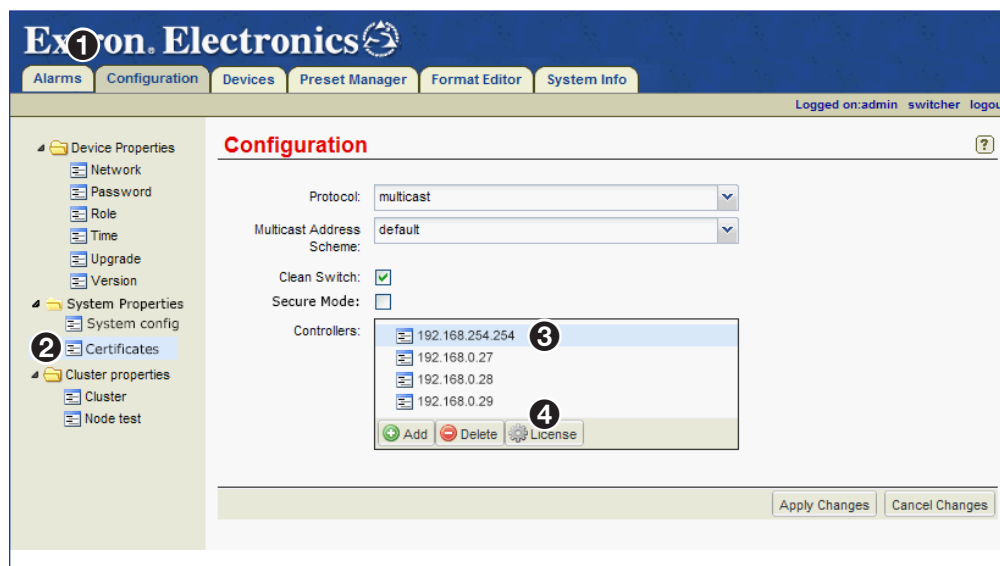

Figure 170. Configuration Page — Updating the Controller License
1. Click the **Configuration** tab to open the page (see figure 170, ①).
2. Click the **Certificates** link (②).
3. From the **Controllers** field in the Configuration panel, select the IP address of the controller that requires a new license (③).
4. Click **License** (see figure 170, ④).